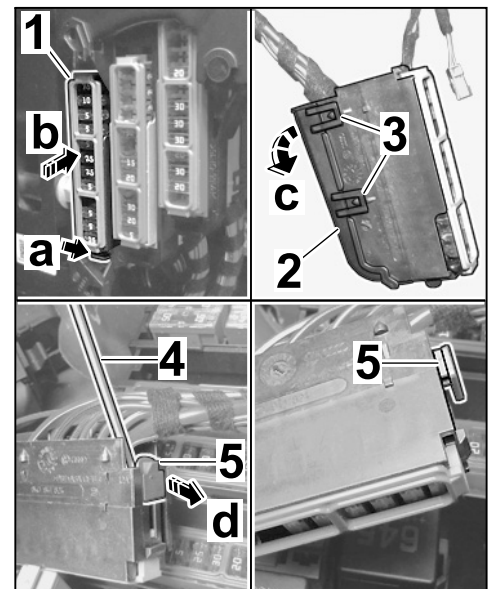

Figure 39
- 4.12.1 Release fuse strip A (black) ⇒ *Figure 39-1* - using a screwdriver ⇒ *Figure 39-a* - and remove it by pulling it to the rear ⇒ *Figure 39-b* - and out of the fuse box.
Release the cover cap of fuse strip A (black) ⇒ *Figure 39-2* - on both sides ⇒ *Figure 39-3* - and remove it ⇒ *Figure 39-c* -.
Use a screwdriver ⇒ *Figure 39-4* - to open the secondary lock ⇒ *Figure 39-5* - of fuse strip A (black) ⇒ *Figure 39-d* -.